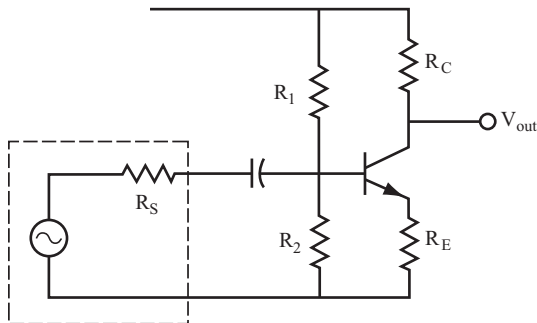

FIGURE 9.6
4 The amplifier shown in Figure 9.6 is the same type of amplifier that was discussed in problems 11–18 of Chapter 8, “Transistor Amplifiers.” It is called a *common emitter amplifier*.
5 In the circuit shown in Figure 9.6, an input signal applied to the base will be amplified.
B. What is the voltage gain formula for the amplifier circuit shown in Figure 9.6? _____